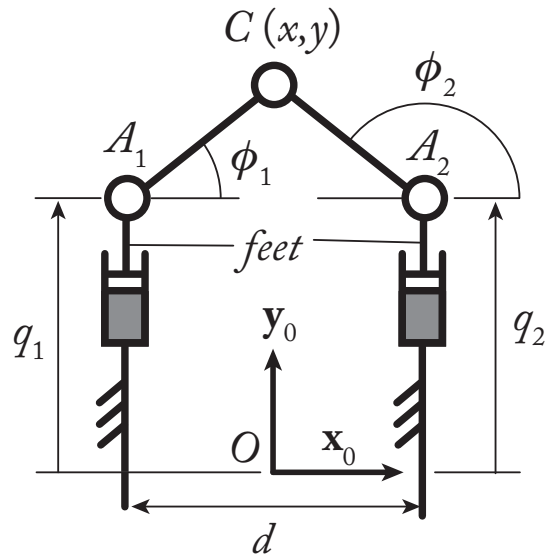

Figure 1: Kinematic model of the Biglide
The kinematic architecture of the five-bar mechanism is shown in Fig.1. For the mechanism of the ADAMS mock-up, the geometric parameters are:
- the passive joint variables  $\phi_1, \phi_2$  as defined in Fig. 1